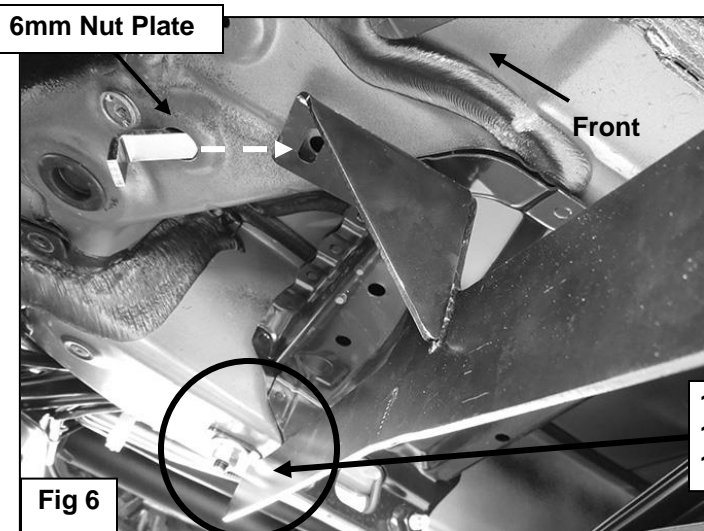

Fig 6
- Next, select the driver side front Bracket, **(Figure 5)**. Attach the Bracket to the 12mm Bolt Plate with (1) 12mm Flat Washer, (1) 12mm Lock Washer and (1) 12mm Hex Nut, **(Figure 6)**. Leave loose.
- Line up the mounting tab on the Bracket with the factory hole at the point where the cross member joins the frame rail, **(Figures 2 & 6)**. Insert (1) 6mm Nut Plate into the larger inner hole and line up the nut with the hole toward the outside under the mounting tab on the Bracket, **(Figures 6—8)**.